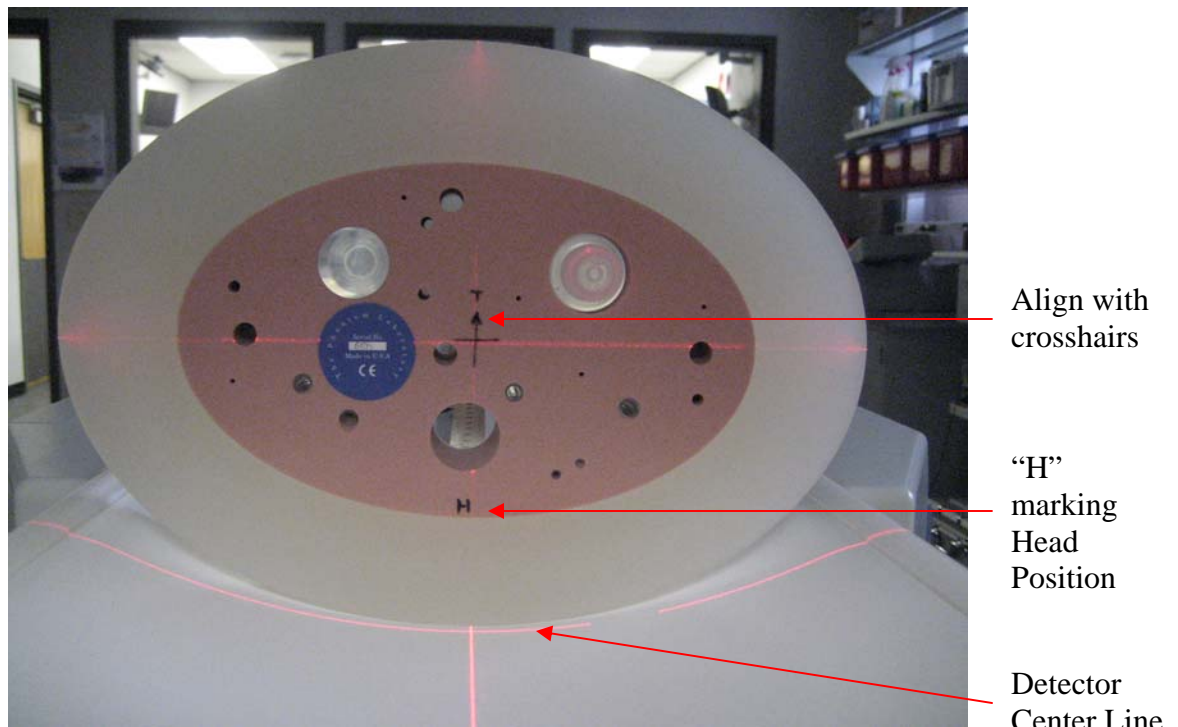

Figure 5
Step 4 Orient the phantom on the scanner table head-first, supine. The cap of the bottle is the head. The phantom is also marked with “H” for “head”. (Figure 5)
Step 6 Align the phantom in the scanner cross hairs. Line up with the  on the front of the phantom. (Figure 5)
Step 7 Move the scanner table. Do not allow the phantom to go past the detector center line. (Figure 5)